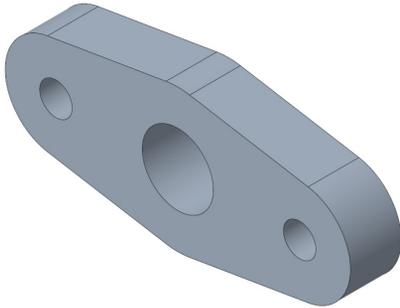
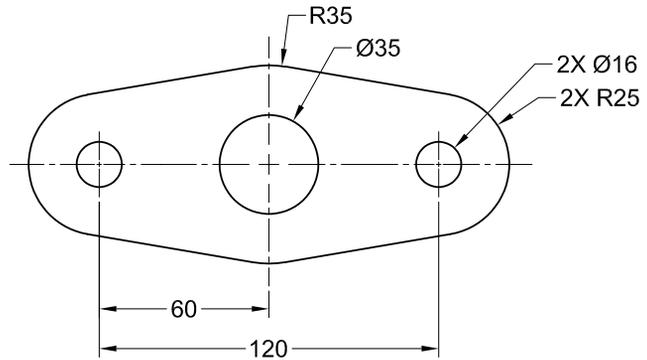

Figure 3-35 Model for Tutorial 2
Figure 3-36 Sketch of the model
In this tutorial, you will draw the sketch for the model shown in Figure 3-35. The sketch is shown in Figure 3-36. **(Expected time: 30 min)**
3. Clear the **Regenerate** check box and then modify the values of the dimensions, refer to Figure 3-36 for dimension values.